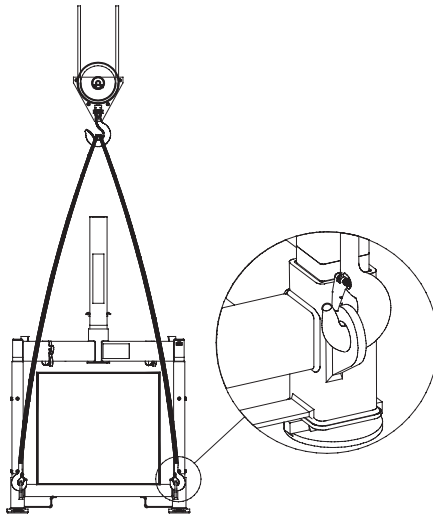

Figure 32. *Lifting the whole unit for transportation (crane).*
4. The system must be lifted without the SkyReach inserted, as per figure 32. Use 4 slings/chains with load capacity min 2000 kg each. All slings/chains must have the same length to avoid tilting the unit when lifting. Each sling or chain must be connected to one lifting eye as shown in Figure 32.